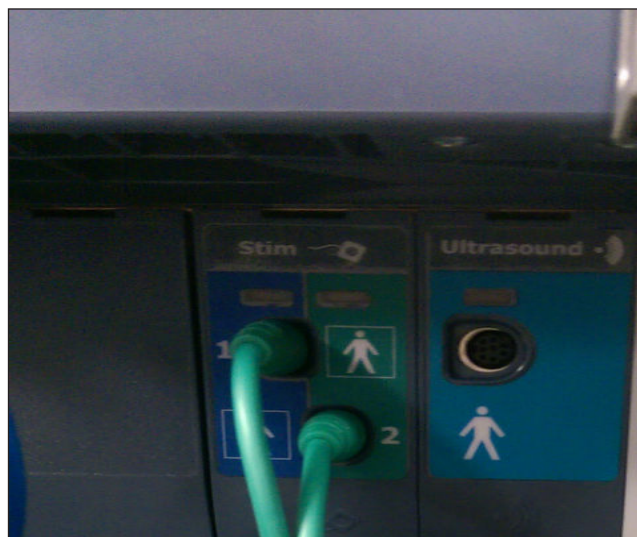

FIGURE 4
- If icons are present, connect known good sEMG Lead Wire to Channels 1 and 2. See **Figure 4**.